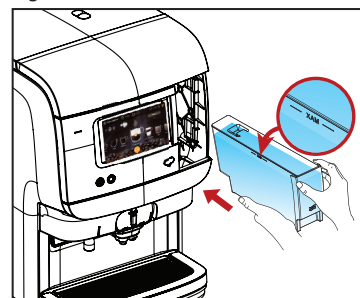

Fig.4
4. Refill the water tank to the MAX level with fresh, clean water and replace it in the dispenser. (See Fig.4)